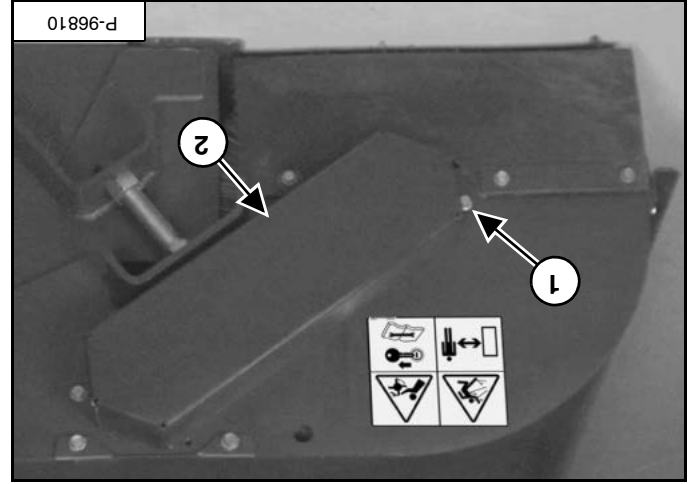

Figure 106
Remove the bolts (item 1) [Figure 106] from the chain cover.
Remove the chain cover (item 2) [Figure 106].